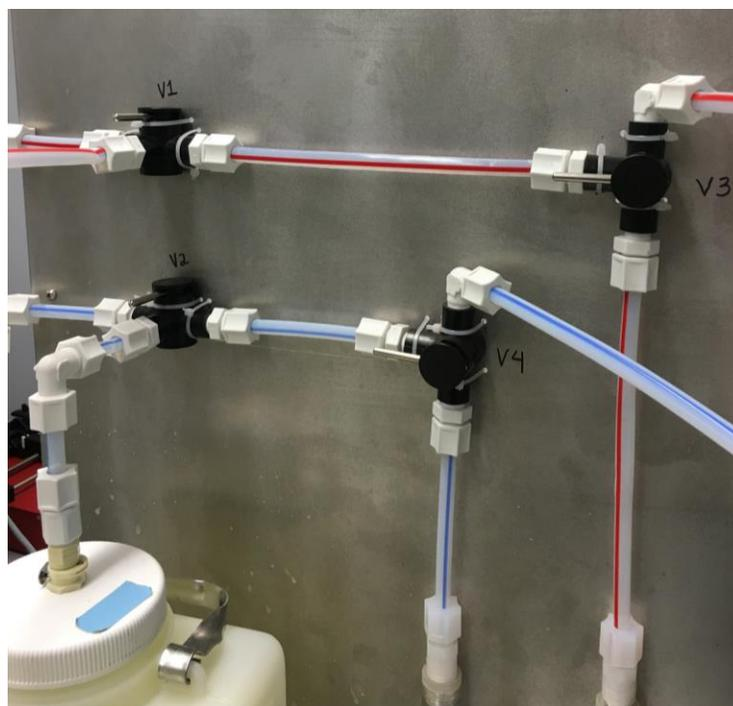

Figure 3: Closed-loop configuration
1. Ensure that the valves are turned so the flow is through the closed loop (through the ester and caustic pumps, flowmeters, and containers), as shown in Figure 3